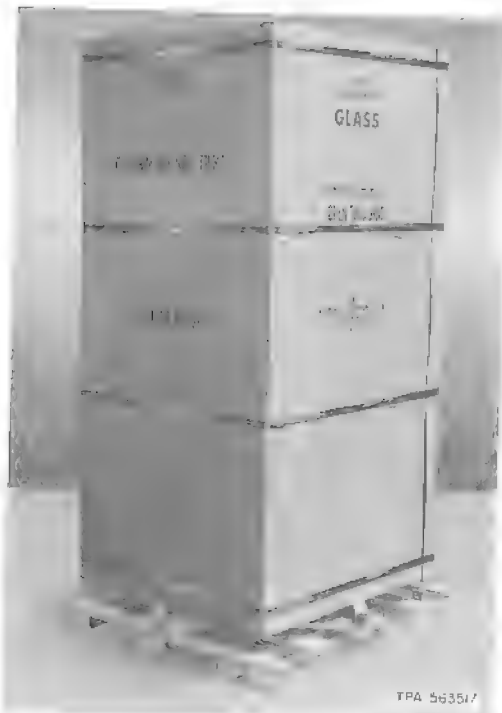

Fig. 16—Kiosk in Packing Case
- (1) The kiosk comes packaged as shown in Fig. 16.